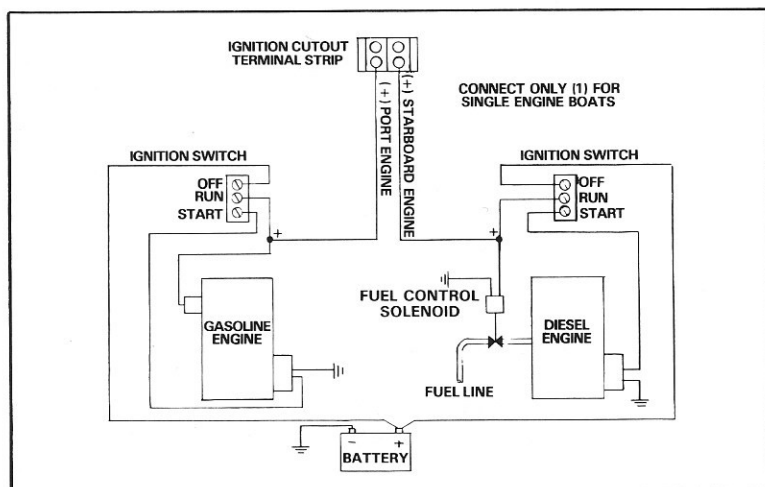

Figure 8. Ignition Cut-Off.
4. Connect ignition cut-off, if desired. This is accomplished by connecting either or both of the ignition cut-off terminals to the positive output terminal of the ignition switch or the positive terminal of the fuel supply solenoid for the main engine. Use # 16 AWG or larger wire with 105° C insulation and terminate with locking forks or ring terminals. **See Figure 8.**